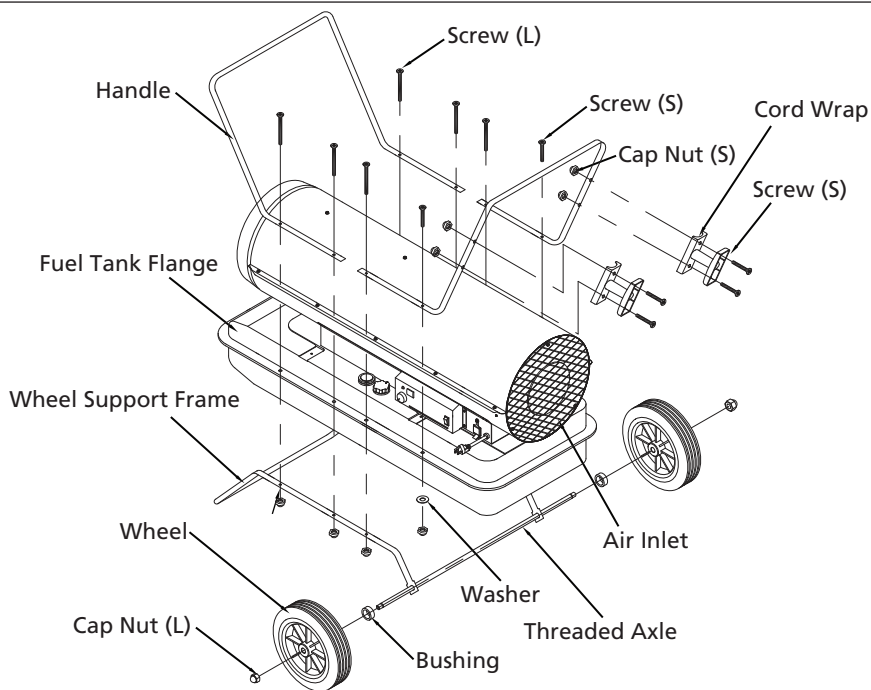

Figure 5 – Wheel and Handle Assembly
3. Place heater on wheel support frame. Make sure air inlet end (rear) of heater is over wheels. Align the holes on fuel tank flange. Insert screws(L) through handles (front and rear), fuel tank flange, and wheel support frame. Insert screws(S) through rear handle, fuel tank flange, and washer(S) as shown in figure 5 and attach nut finger tight after each screw is inserted.
6. Insert screws through cord wrap, rear handle as shown in Figure 5 and attach nut finger tight after each screw is inserted.